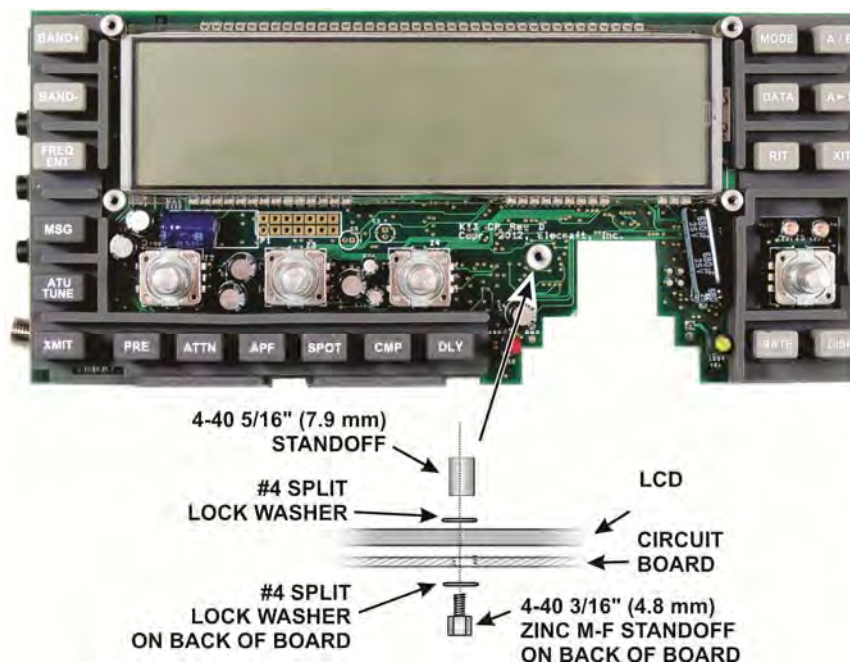

Figure 11. Installing CP Board Standoff Hardware - Part 3.
- Install the remaining standoff on the CP board as shown in Figure 11. Note that this standoff uses larger 4-40 hardware and a M-F standoff on the back side of the board.